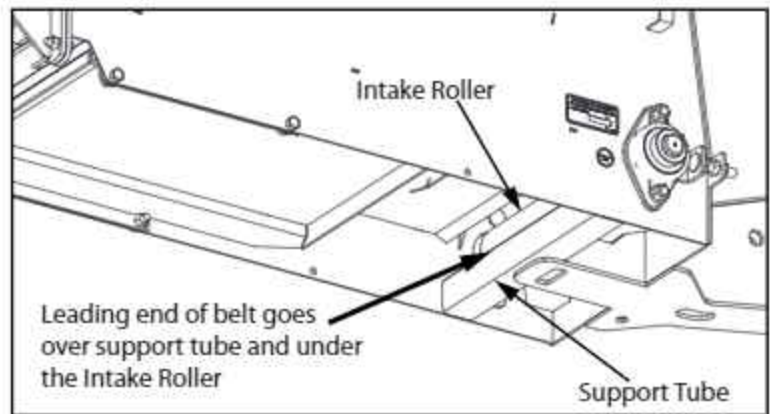

FIG. 3-35. Inserting the Belt
2. Fig 3-35 shows where to start feeding the belt into the conveyor. Make sure the leading end is inserted first, with the slider backing on top. The belt goes over the support tube shown and under and around the Intake Roller.